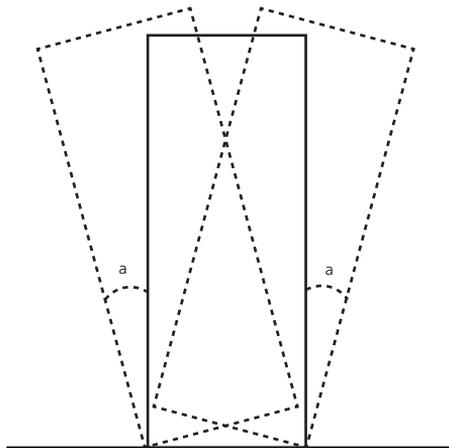

Figure 3-2 Tilt angle
- The tilt angle of the cabinet must meet the requirement as shown in Figure 3-2. The angle before unpacking: $\alpha \leq 15^\circ$; the angle after unpacking: $\alpha \leq 15^\circ$.